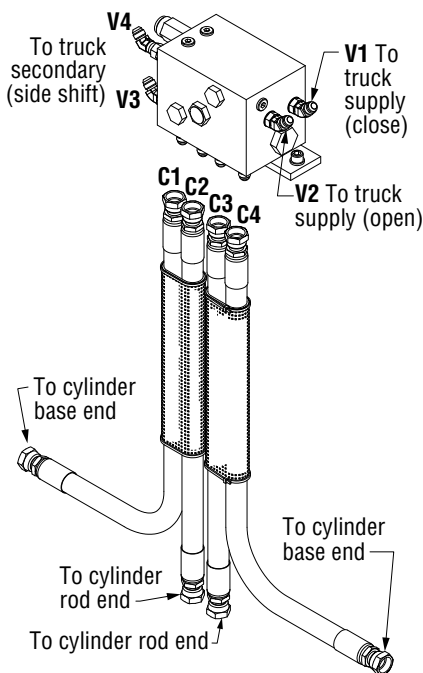

Figure 5-1, Hydraulic Connection
2. Disconnect the hydraulic connection for the attachment positioning at the hydraulic valve, ports V1 and V2. Cap hose ends to prevent contamination and tag for reassembly. (Figure 5-1)
3. Disconnect the side shift connections at ports V3 and V4. Cap hose ends to prevent contamination and tag for reassembly. (Figure 5-1)